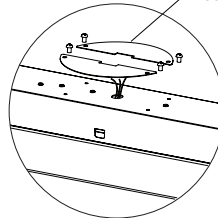

Fig. 3
3. Wire to main power through the junction box. (Fig. 3)